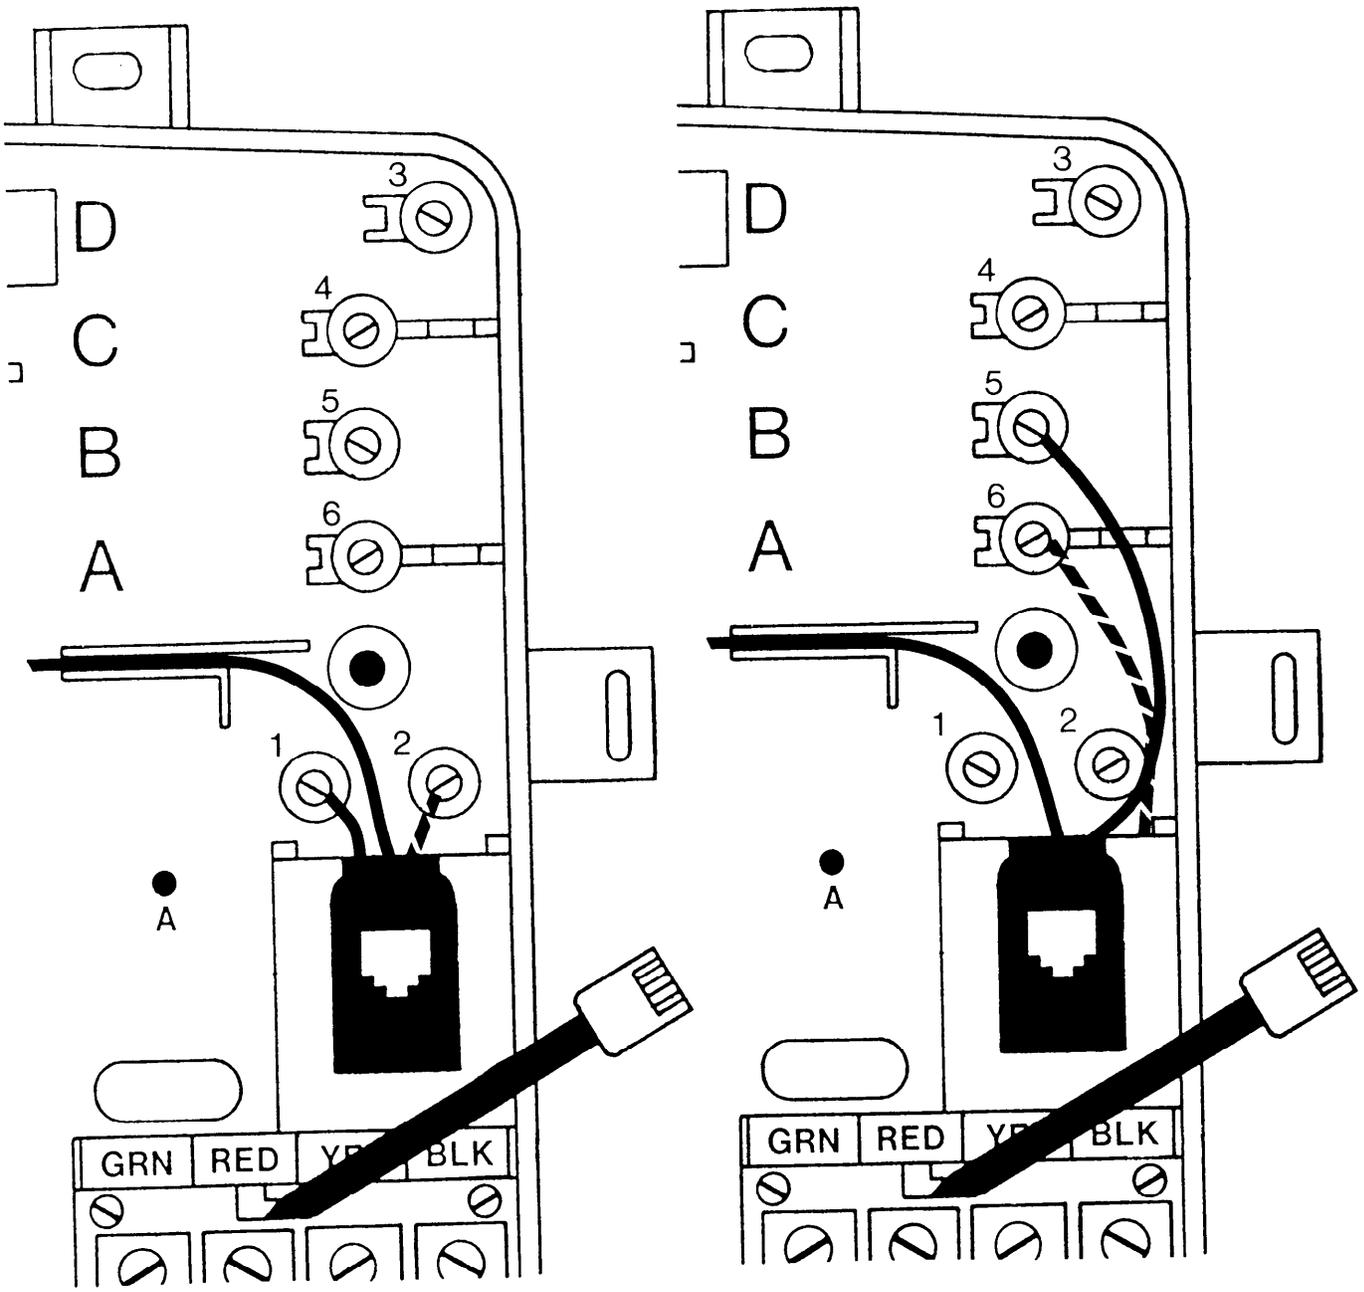

Fig. 2—Wiring the modular jack when installing the ANI-911 in an SNI-2100
3.04 In the Network Interface, move the Green and Red wires on the modular jack from terminals 1 and 2 (C.O. Tip and Ring) to terminals 5 and 6 (Station Tip and Ring). Refer to Figure 2.